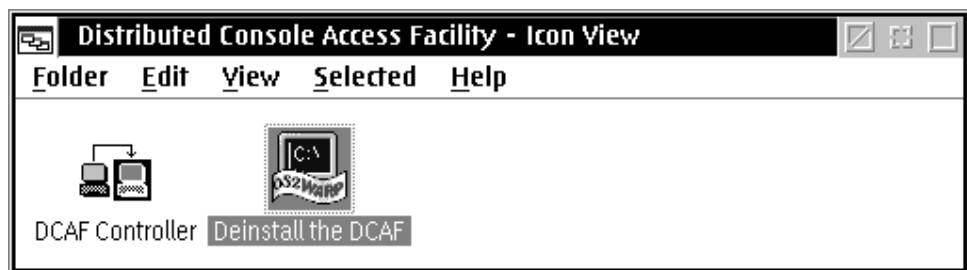

Figure 228. Distributed Console Access Facility - Icon View Window
3. Select the **DCAF Controller** icon in the Distributed Console Access Facility - Icon View window (Figure 228).